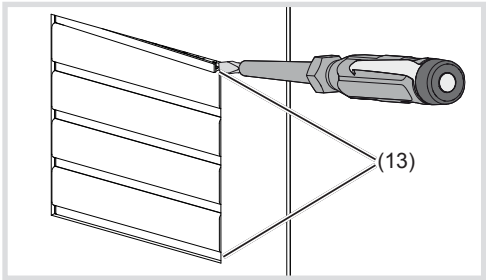

Figure 11: Removing the cover strips
- Lever up the interlocking cover strips (13) at the top and bottom using the screwdriver and remove (Figure 11).